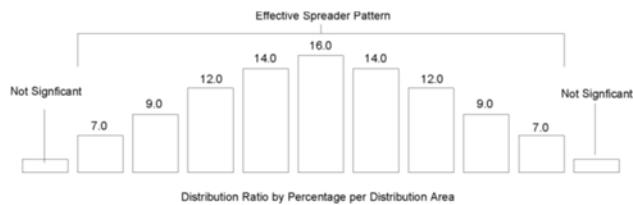

FIGURE 13A, Spread distribution
- The distribution pattern should be balanced as in FIGURE 13A with a higher amount of product, collected in the center pan and tapering off equally to both sides. **NOTE:** The distribution pattern shown in FIGURE 13A represents an ideal pattern, which will not be reproducible in the field. The numbers are used for reference only.